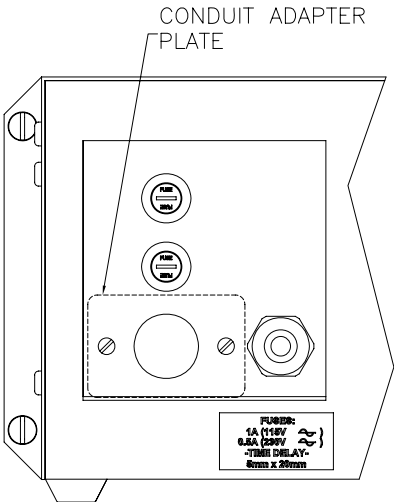

Figure 9b: Installation of Conduit Adapter Plate
3. Install the Conduit Adapter Plate (supplied) in the hole where the AC inlet receptacle was removed (see Figure 9b).